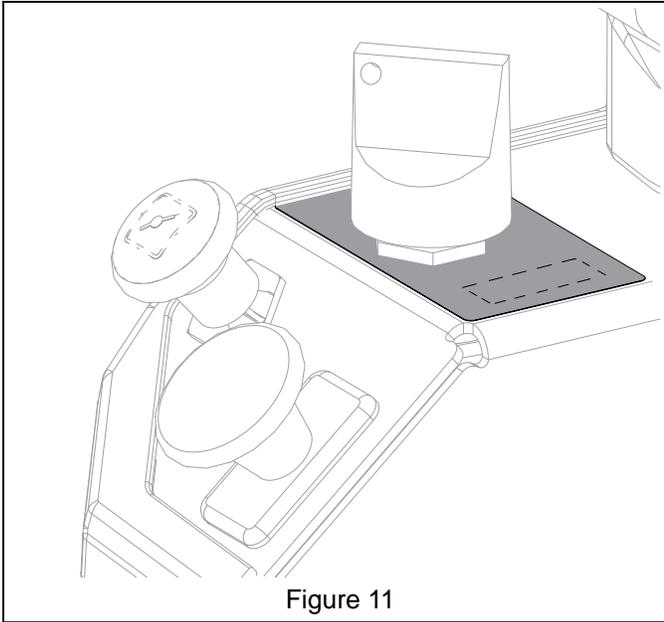

Figure 11
10. Using a utility knife or other suitable tool, carefully trim an opening through left side of switch decal to reveal key switch hole. See Figure 11.